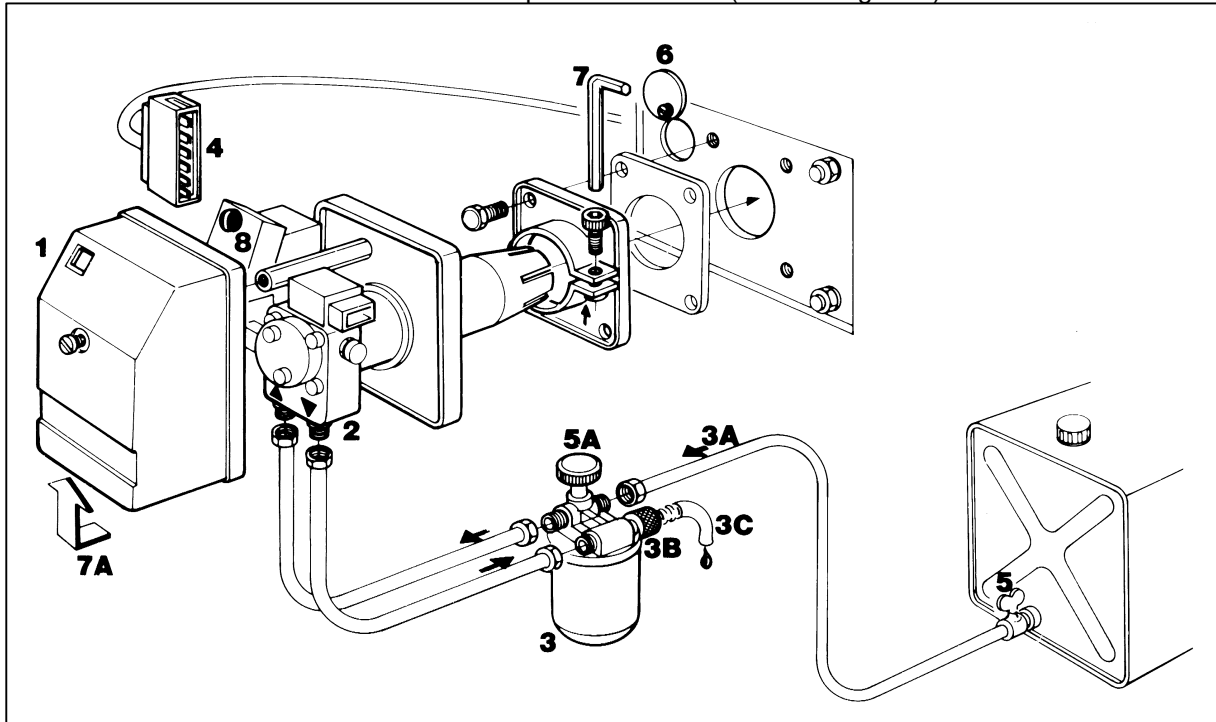

Figure 9
4. Lift the burner a little according to **7A** (figure 9);
5. Fasten bolt **7** (Figure 9) on the flange to clamp the burner;
To connect the filter to the burner follow the procedure below (see also figure 9):
5. Starting of the oilburner (see figure 9):